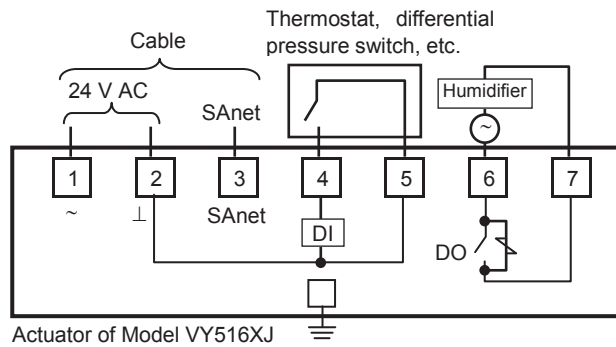

Figure 11. Basic connection example
- 3) Correctly connect the wires to the terminals with M3.5 screw terminal lugs, referring to Fig. 11. To connect a device with over 100 V AC to the sub-DO, be sure to ground the actuator with 100 Ω or lower ground resistance. Refer to Fig. 11 for the location of each terminal.